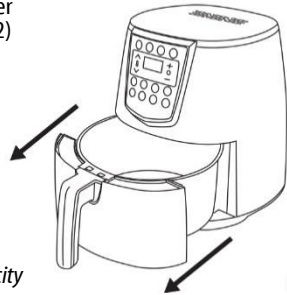

FIGURE 2
1. Carefully pull out the Drawer Pan (3) from the Main Fryer Body by pulling forward on the Handle (9). (see Figure 2)